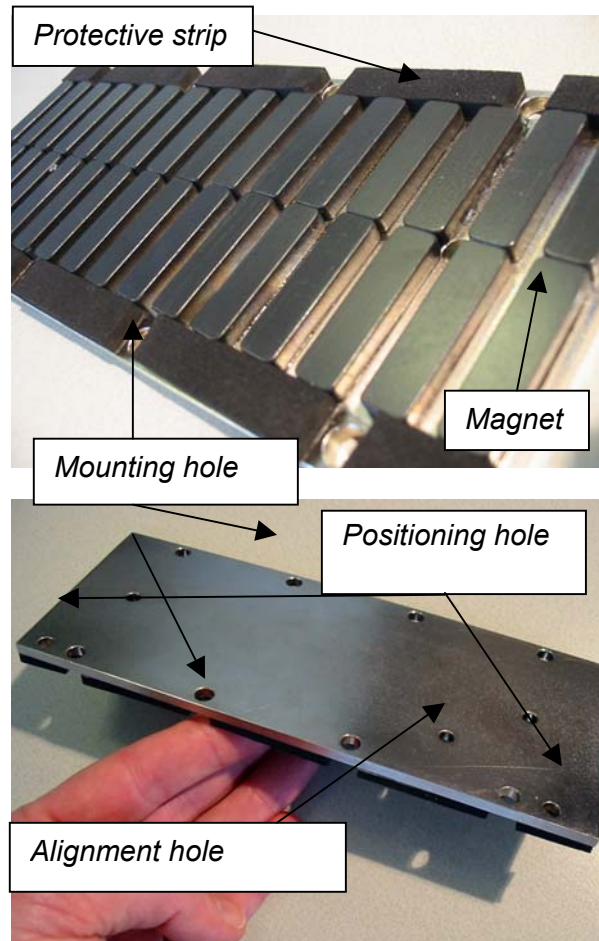

Figure 10: Magnetic plate, details
2. Select the holes according to the position of the  $\varnothing 5$  precision positioning holes in the magnetic plate (see Figure 10, Magnetic plate, details).